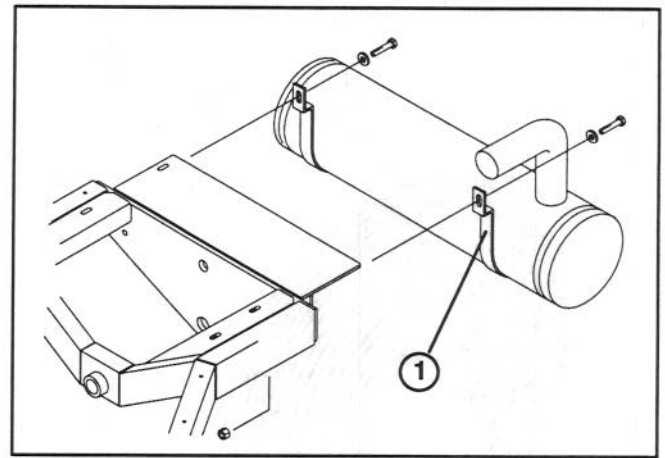

Figure 2
## INSTALL REAR BUMPER (Fig. 2 & 3) (2 Wheel Drive Models Only)
1. Remove (2) capscrews, flatwashers and locknuts securing muffler brackets to rear of chassis (Fig. 2).